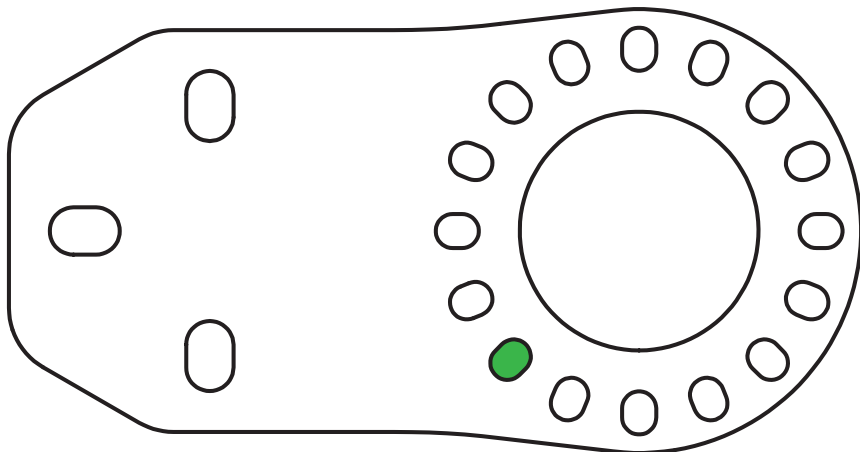

Figure 3 - Correct Bracket Hole for Pin on Top of Catch Can
3. Position the pin into the bracket hole shown in Figure 3.